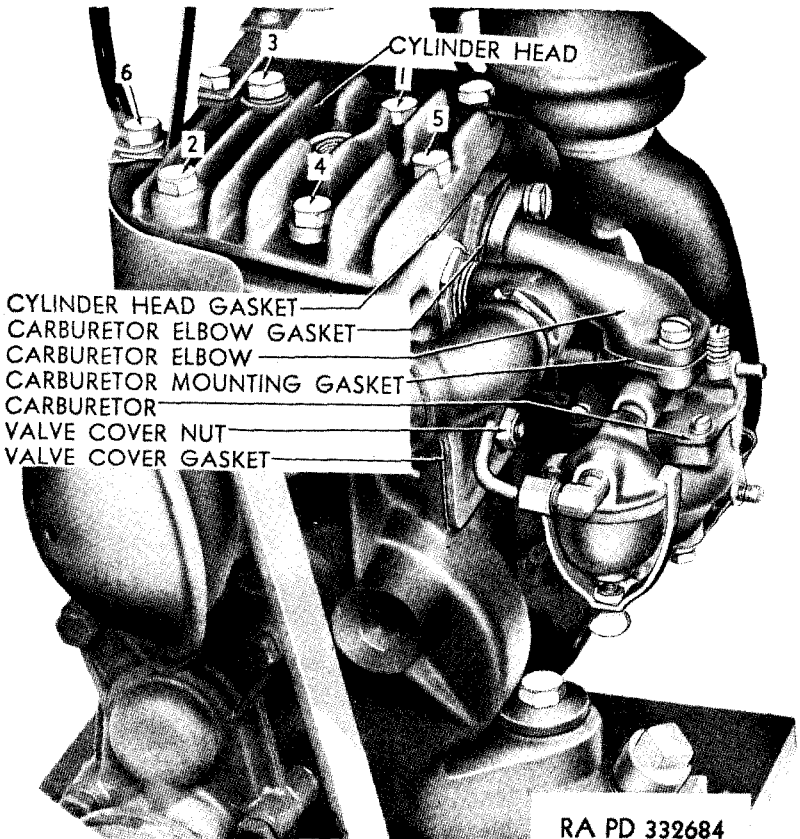

Figure 69—Cylinder Head
b. Removal. Remove spark plug and cylinder head attaching bolts (fig. 69).
shellac. Set cylinder head and gasket in place on cylinder, and install cap screws. With engine cold, tighten cap screws a little at a time, taking them in sequence of numbers shown in figure 69. Replace spark plug with a small amount of graphite on the threads.